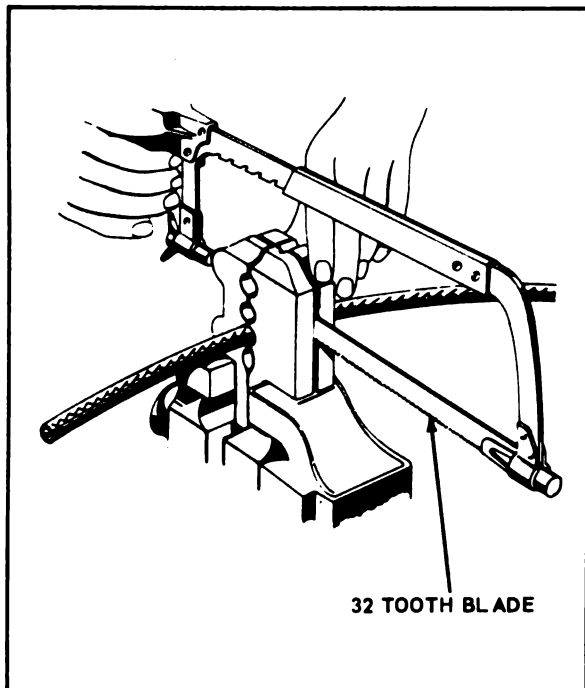

Figure 11-7. Cutting Flexible Conduit
- d. Cut through conduit with a hack saw as shown in figure 11-7.
- c. Cut through conduit with a hack saw as shown in figure 11-7.